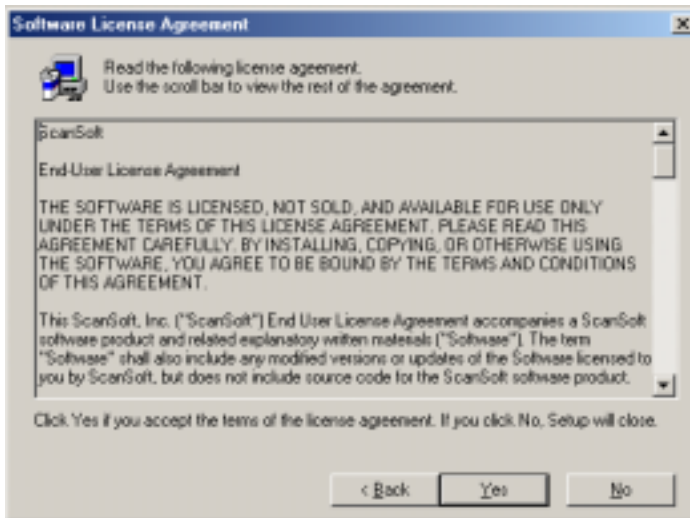

Figure 5: accepting the license agreement
5. Click on 'Yes' to accept the license agreement and continue installation. See figure 5.